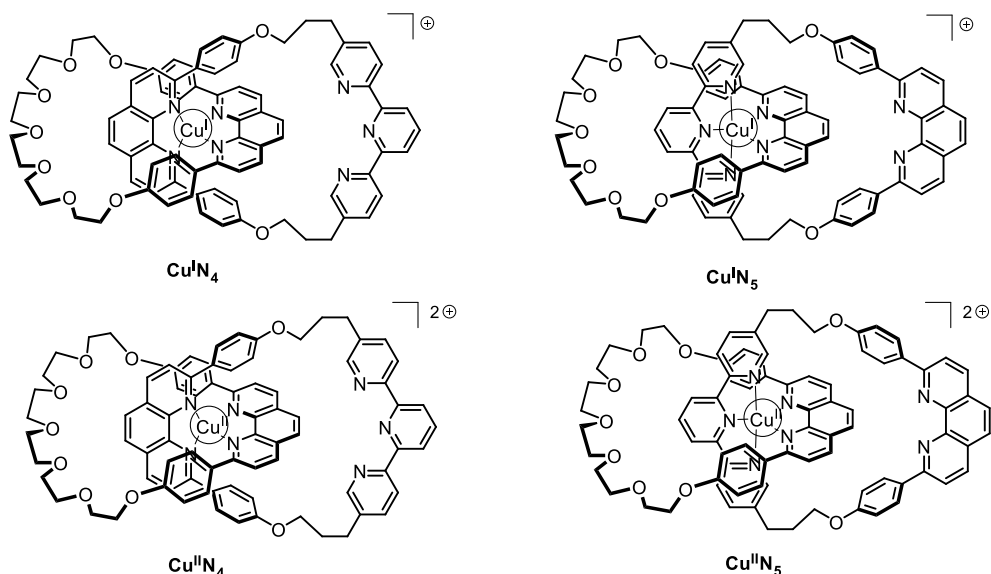

Fig. 2 – [2]catenane **L** states
11. **Fill** in the solid boxes with the formula of the complexes (from Fig. 2) in the correct sequence to achieve electrochemical control of the system. **Complete** the dashed boxes with the correct notation (either  (rotation),  $+e^-$  or  $-e^-$ ). in the correct sequence to achieve electrochemical control of the system.